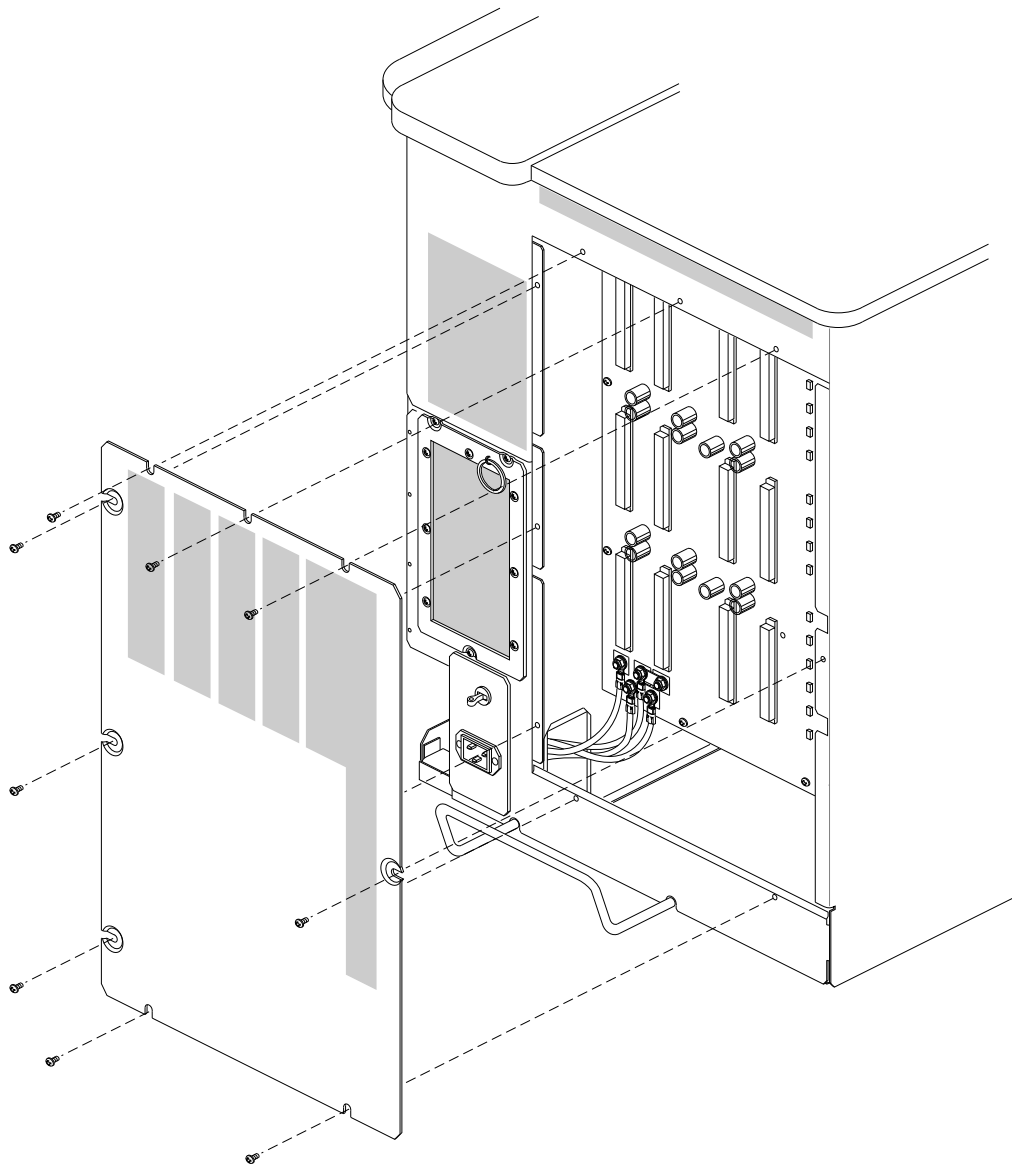

Figure 5-73 Removing the Rear Sheet-metal Cover
6. Remove the sheet-metal panel from the chassis by partially removing the screws holding the door in place. Figure 5-73 shows the prepared back panel.